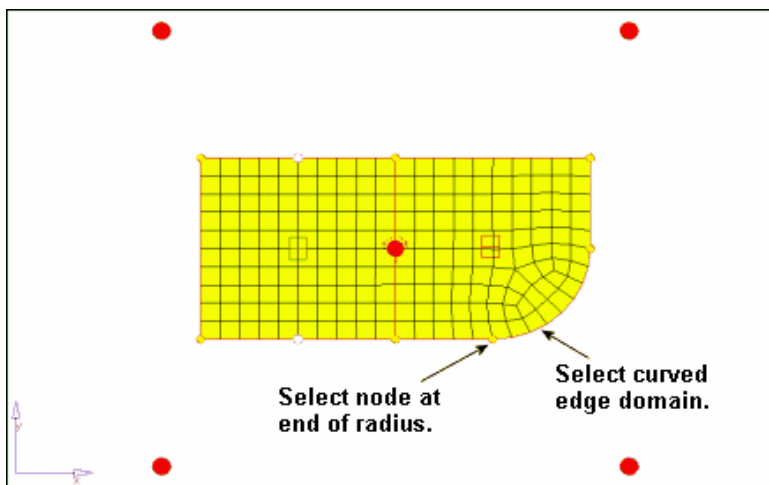

Figure 4: Node selection to further split the edge domain of the radius
7. Repeat the above process to further split the edge domain of the radius, this time at the node indicated in the Figure 4.